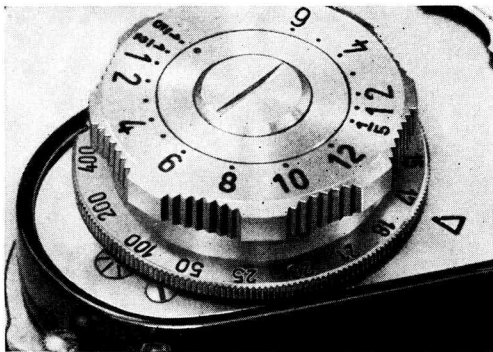

Fig. 36
To control the film transport there is the control disc (rotating film speedometer) marked by a red cross (19). The cross turns, when the spool of the cartridge rotates (Fig. 36).
Film rewinding is done as follows: Hold the camera with your left hand and press down the stud (7) during the whole rewinding process (Fig. 38). With your right index finger, press in the central part (38) of the film rewinding knob (37) as far as it will go (Fig. 39). Now the fork of the film rewinding knob catches the bar of the film spool and by uniformly turning the rewinding knob (37), the film is rewound into the original cartridge. You can observe that the film rewinds all right, when you see the control disk (19) (Fig. 36 page 28) and the axle of the film transport lever (6) turning (Fig. 40). While rewinding, the axle of the take-up spool turns in opposite direction of the lever (6). Once the film is rewound, the rewinding axle stops rotating. As soon as the stud (7) has sprung back into its original position, the